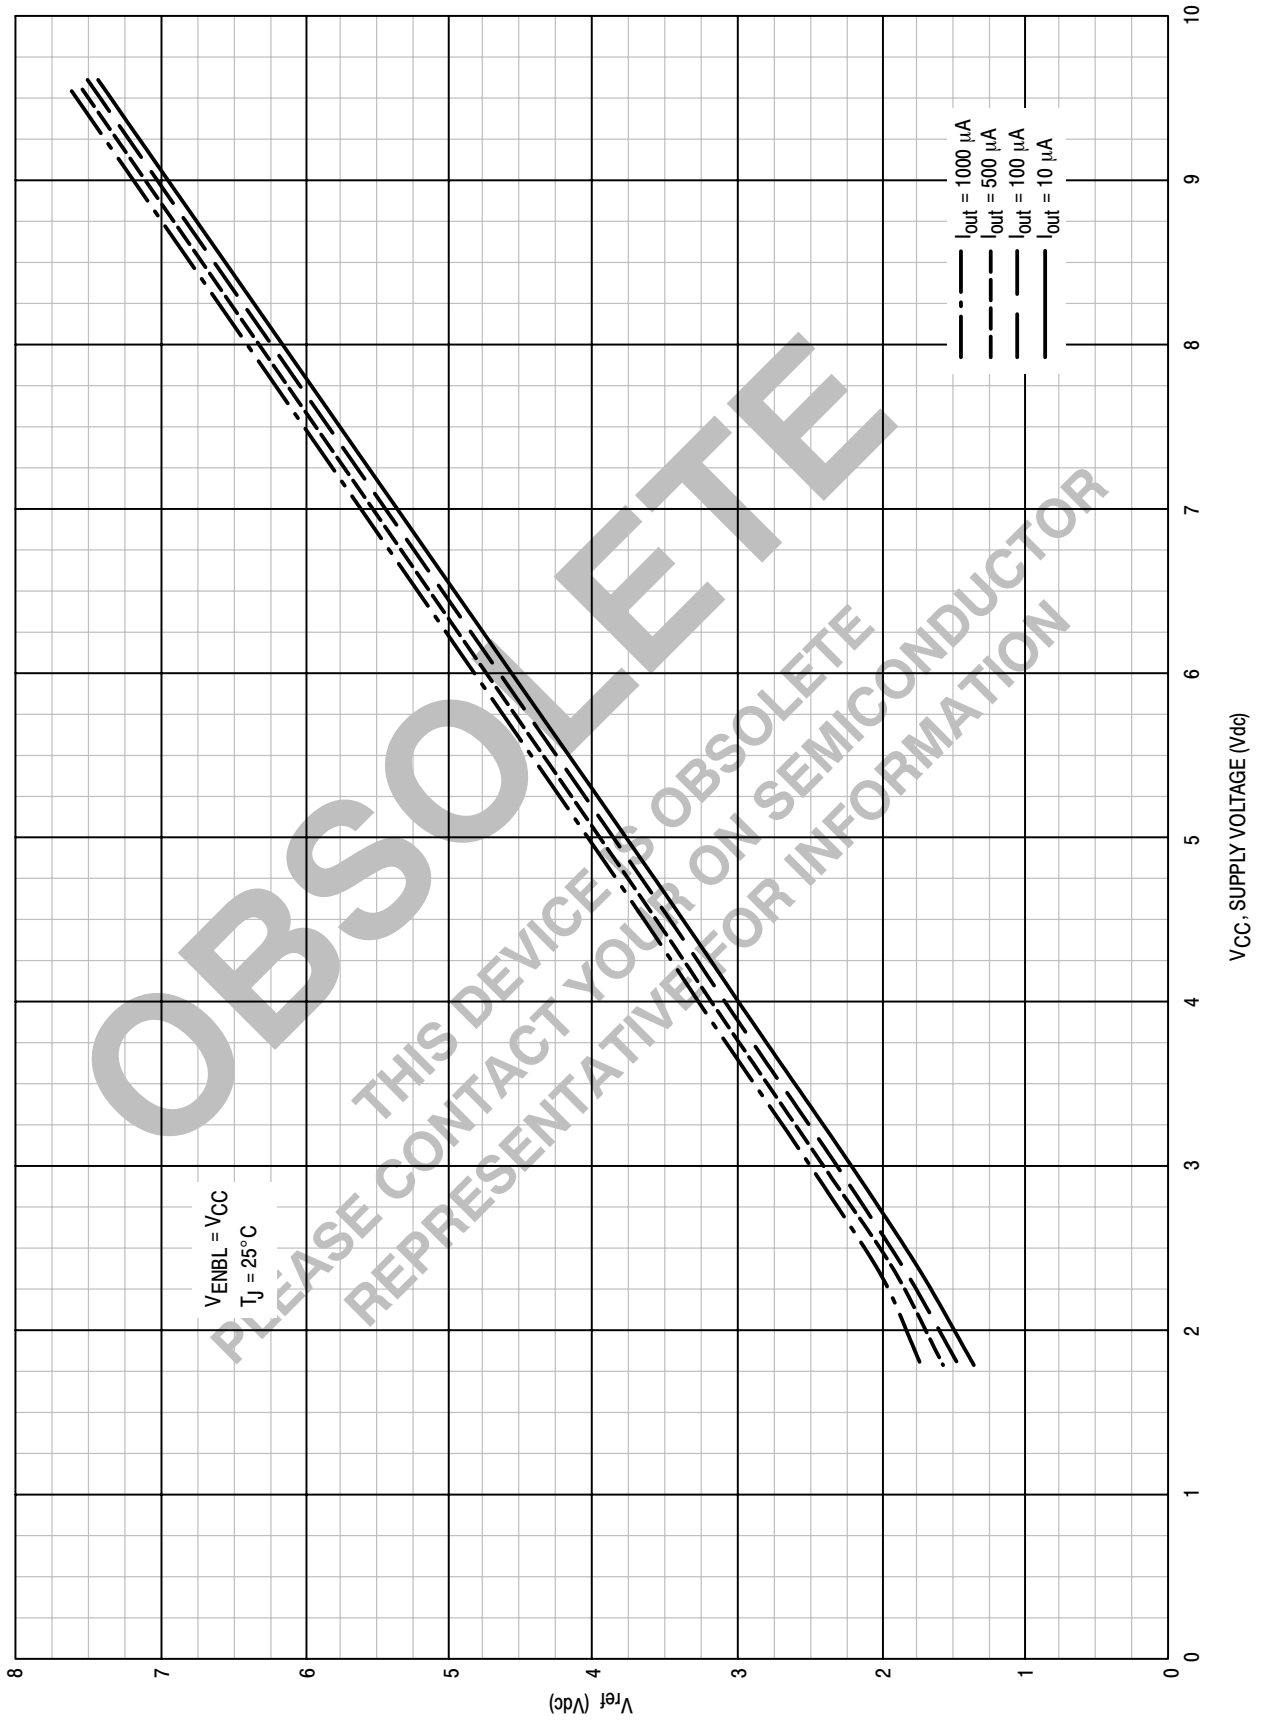

Figure 1. V_{ref} versus V_{CC} @ I_{out}
| Reference Voltage ($V_{ENBL} = V_{CC} = 2.75\text{ V}$, $V_{out} = 0.7\text{ V}$) ($I_{out} = 30\ \mu\text{A}$) ($I_{out} = 150\ \mu\text{A}$) See Figure 1 | V_{ref} | 2.050 2.110 | 2.075 2.135 | 2.100 2.160 | Volts |
- Step 4: From Figure 1, read V_{ref} for V_{CC} and I_{out} calculated.
- Step 6: From Figure 1, read V_{ref} for V_{CC} & I_{out} chosen